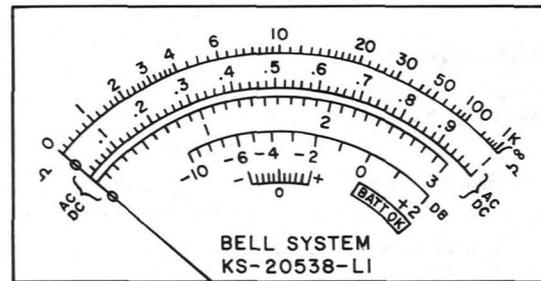

Fig. 2—Meter Scale
**2.07** There are four scales on the meter as shown in Fig. 2. The top red scale is used when measuring resistance and is marked 0 to 1K. The two middle scales are used for all dc and ac voltage readings. The bottom red scale is used for reading decibels.
- 3.08** The meter scales are illustrated in Fig. 2. A familiarity with these scales and their relation to the ranges controlled by the range switch is desirable.